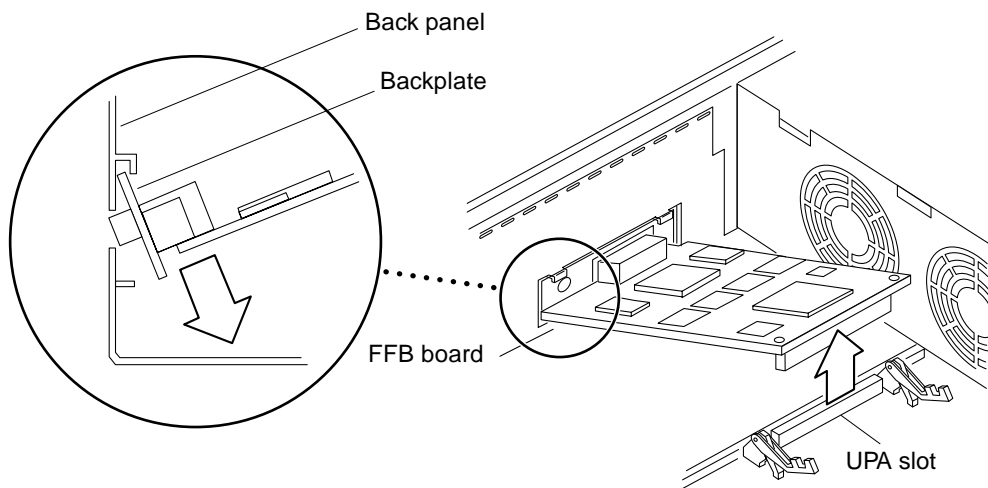

FIGURE 10-17 Removing the FFB Card
- 6. Hold the FFB card at each corner and gently pull the FFB card up to disconnect it from the UPA socket (FIGURE 10-17).**